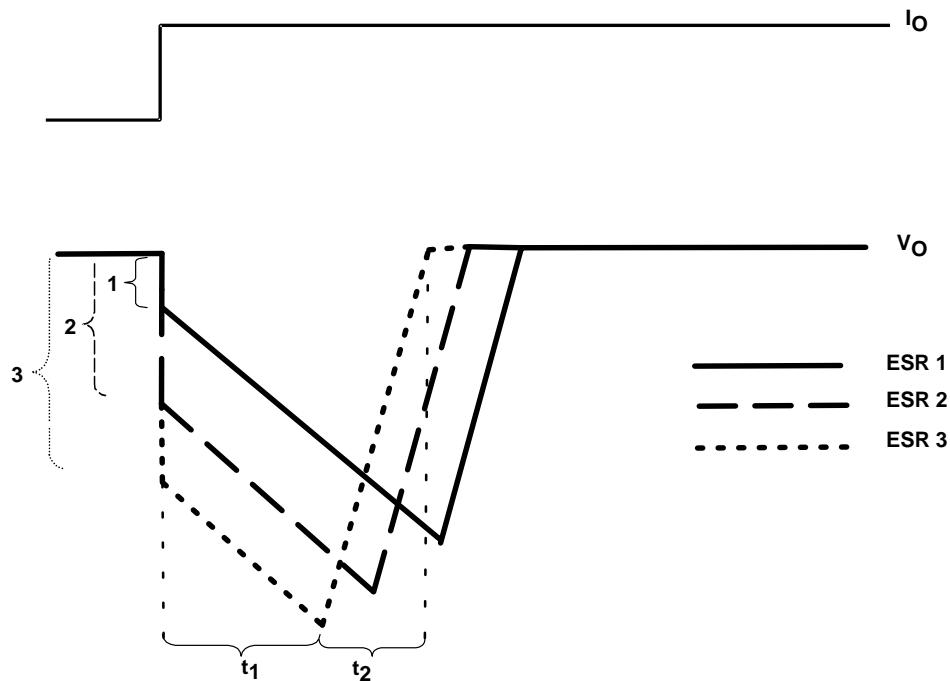

Figure 23. Correlation of Different ESRs and Their Influence to the Regulation of V_O at a Load Step From Low-to-High Output Current
- The LDO is not able to supply the sudden current need due to its response time (t_1 in Figure 24). Therefore, capacitor C_O provides the current for the new load condition (dashed arrow). C_O now acts like a battery with an internal resistance, ESR. Depending on the current demand at the output, a voltage drop will occur at R_{ESR} . This voltage is shown as V_{ESR} in Figure 23.